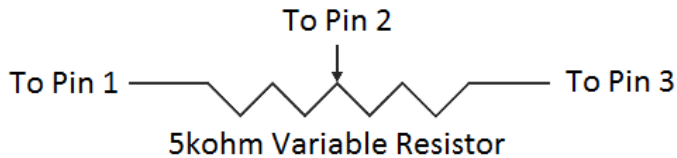

Figure 7 - Variable Resistor Connection
2. Prepare a 5 k Ω variable resistor and connect wires from pins 1, 2, and 3 as shown in Figure 7.